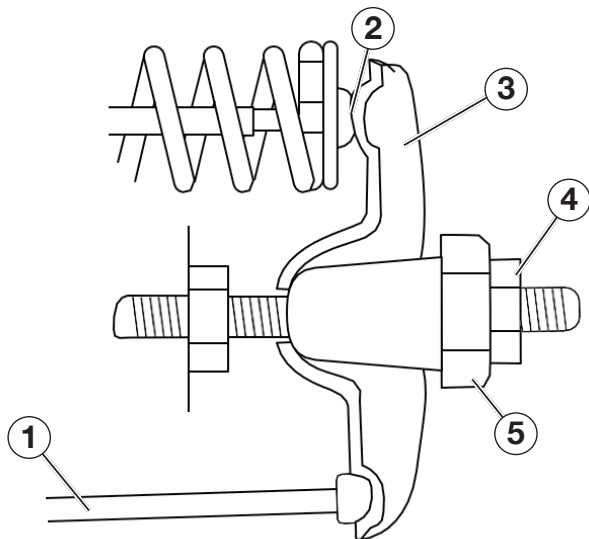

Figure 24
5. Insert a feeler gauge between the rocker arm and the push rod and check for clearance (see Figure 24). See Table 3 for valve lash specifications.